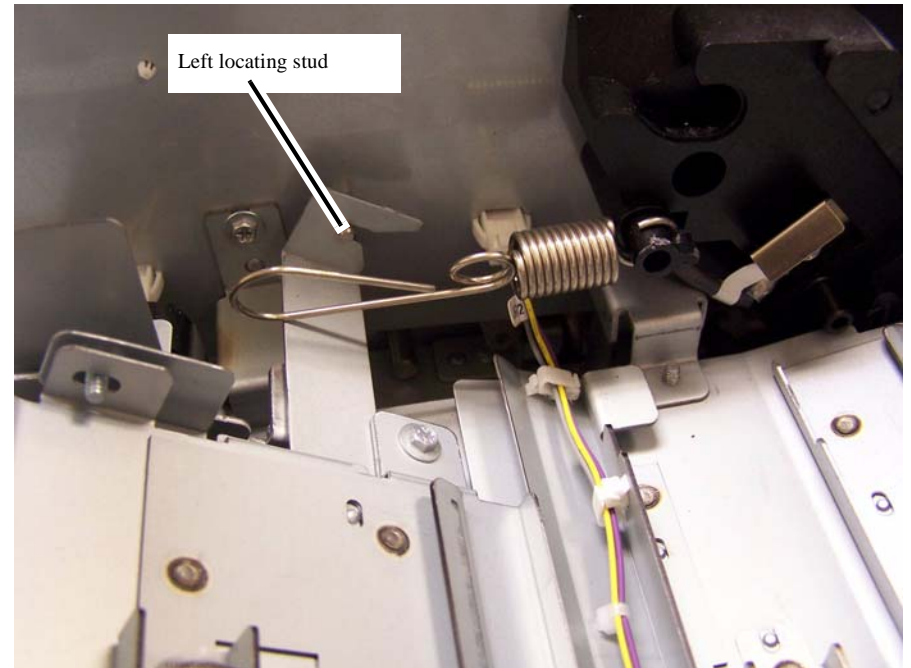
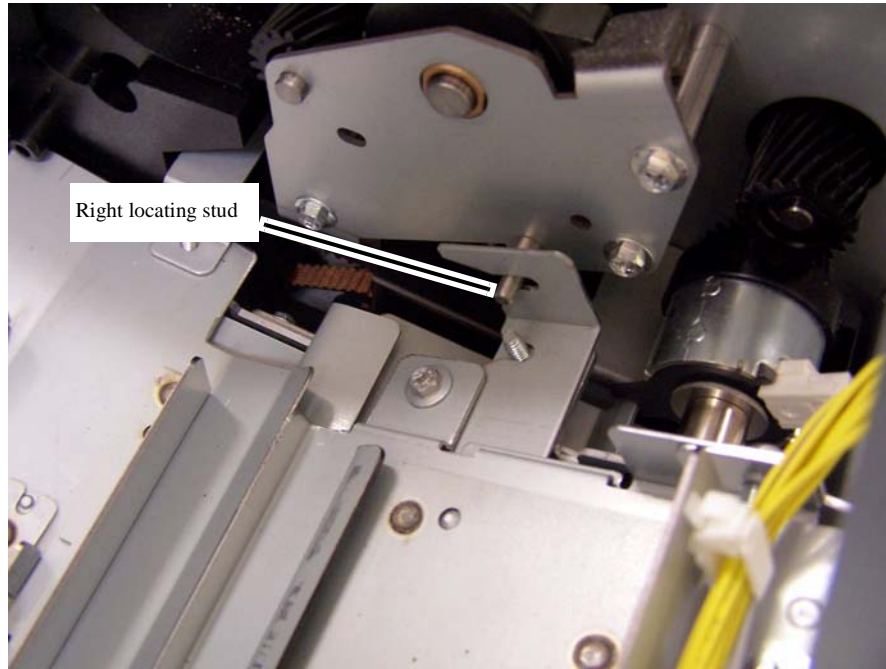

Figure 4 Locating stud at left end of assembly
Figure 5 Location of right locating stud
- c. Lift the left end of the Manual Transport Assembly off the locating stud (Figure 4), then lift the right end off the stud (Figure 5) and slide the assembly out the front of the printer (between the horizontal frame members).